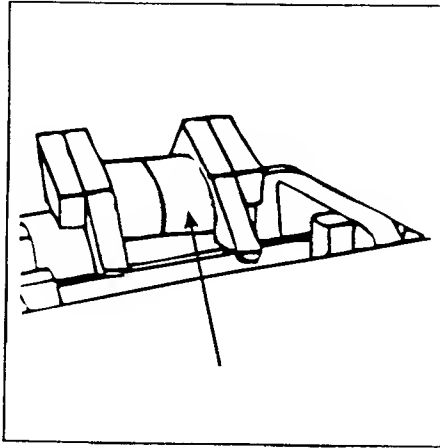

Figure 2-8. Remove Paper Tray. Step c.
- c. Lift out the paper tray and remove the two attached foam pieces (Figure 2-8).